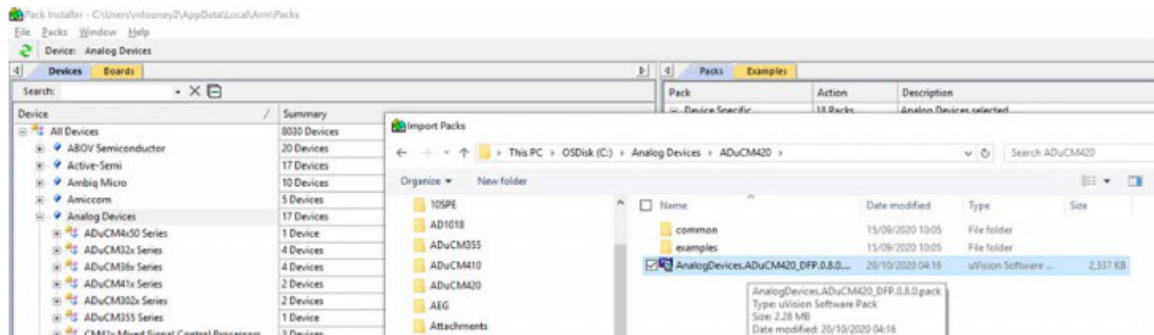

Figure 7. Pack Installer
2. After the CMSIS pack installer opens, click File > Import. Select and import the ADuCM420 pack that is included in the installation setup (see Figure 7).